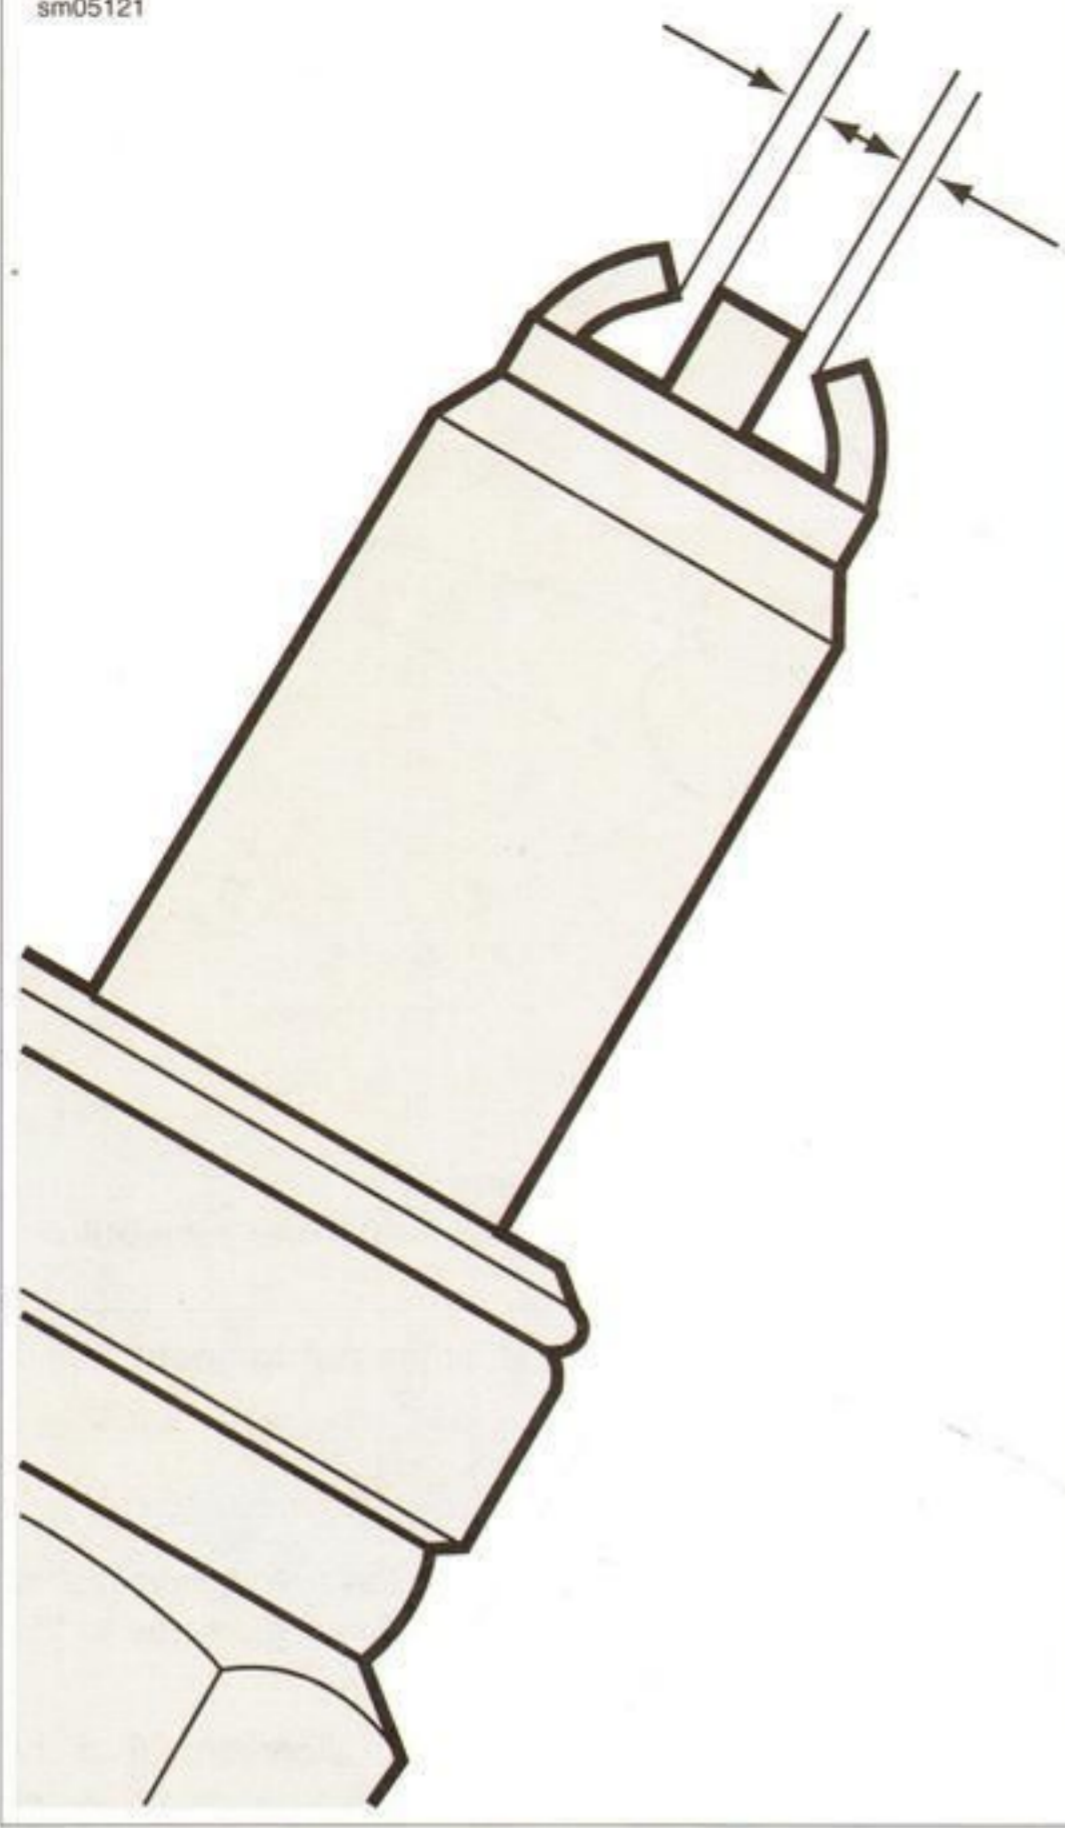

Figure 1-42. Spark Plug Gap
1. See Figure 1-42. Measure electrode gap with a wire-type feeler gauge.